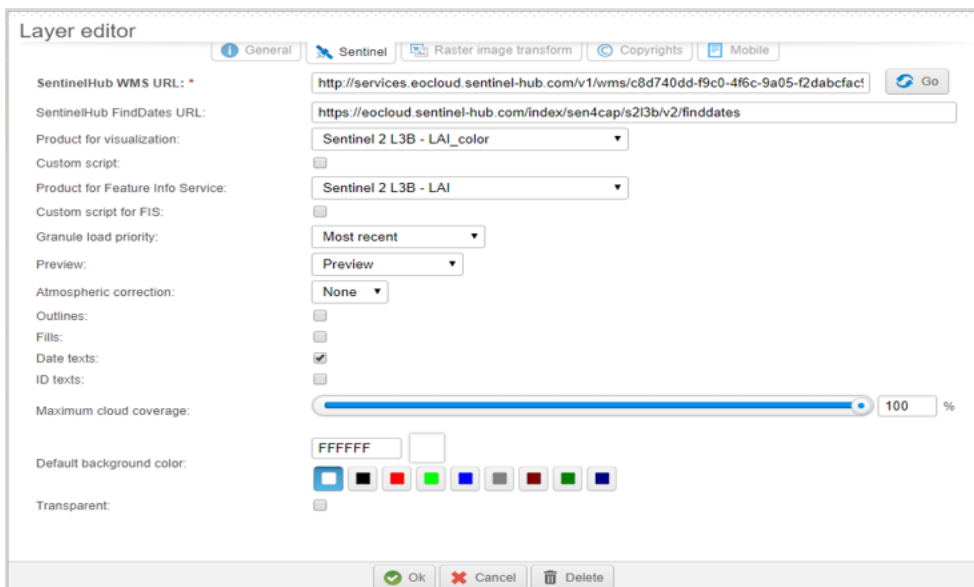

Figure 6-9. Settings for the Sentinel-2 L3A - LAI layer
- **Sentinel-2 L3A – LAI** (Figure 6-9)